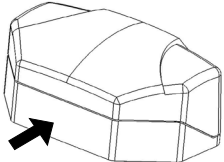
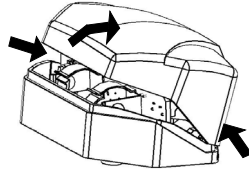

Figure 3
Figure 4
11.1 Remove the Detector cover by pressing on the back wall of the Detector base (Figure 3) and pressing the edges of the cover by the fingers of the other hands at the points shown in Figure 4.